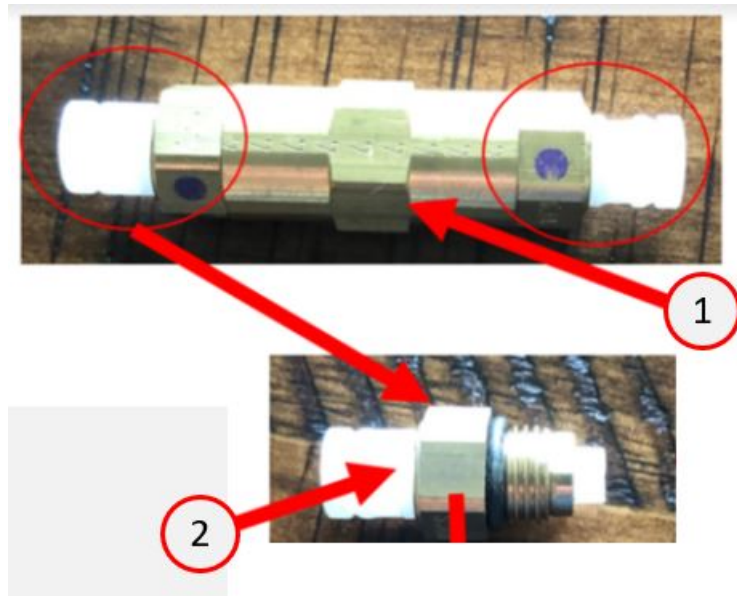

Fig. 5
28. Install fittings on each front air spring. Leave the white caps on the fitting for now (Fig. 5) .